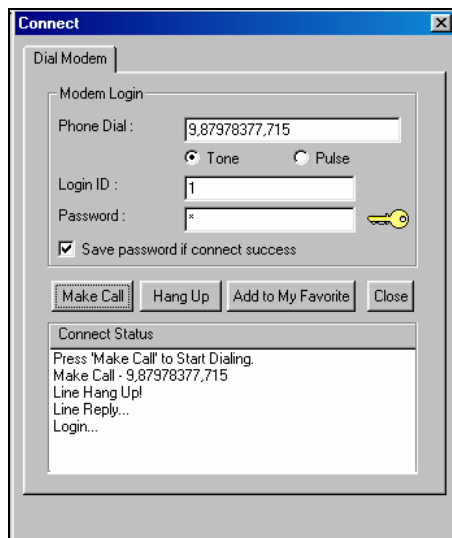

Figure 8-1 Making connection to GV system through dial-up connection.
6. Enter a valid user ID and password, and then click the **Make Call** button. Messages should appear in the Connect Status window when the connection is established, shown in Figure 8-1.